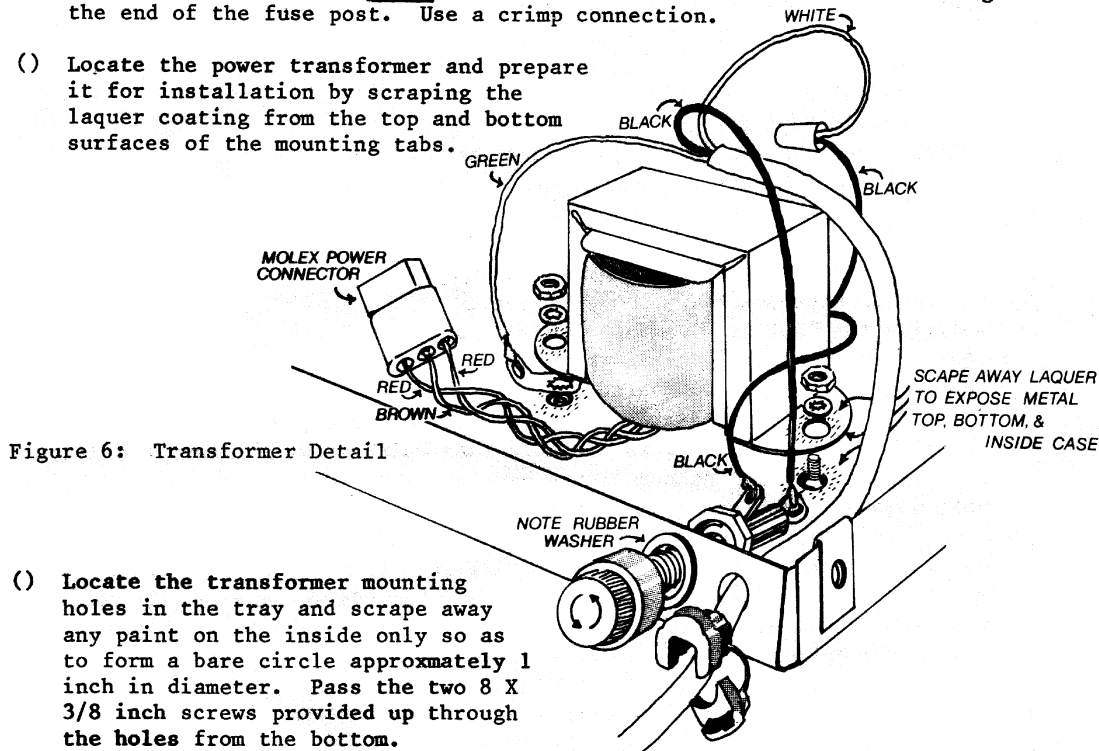

Figure 6: Transformer Detail
- ( ) Locate the grounding type line cord and install using the strain relief supplied in the hole provided in the rear of the case. Be sure that 6" (15cm) of cord extends into the tray. Squeeze the strain relief closed with a large pair of pliers during installation (it has to be tight). See figure 6.